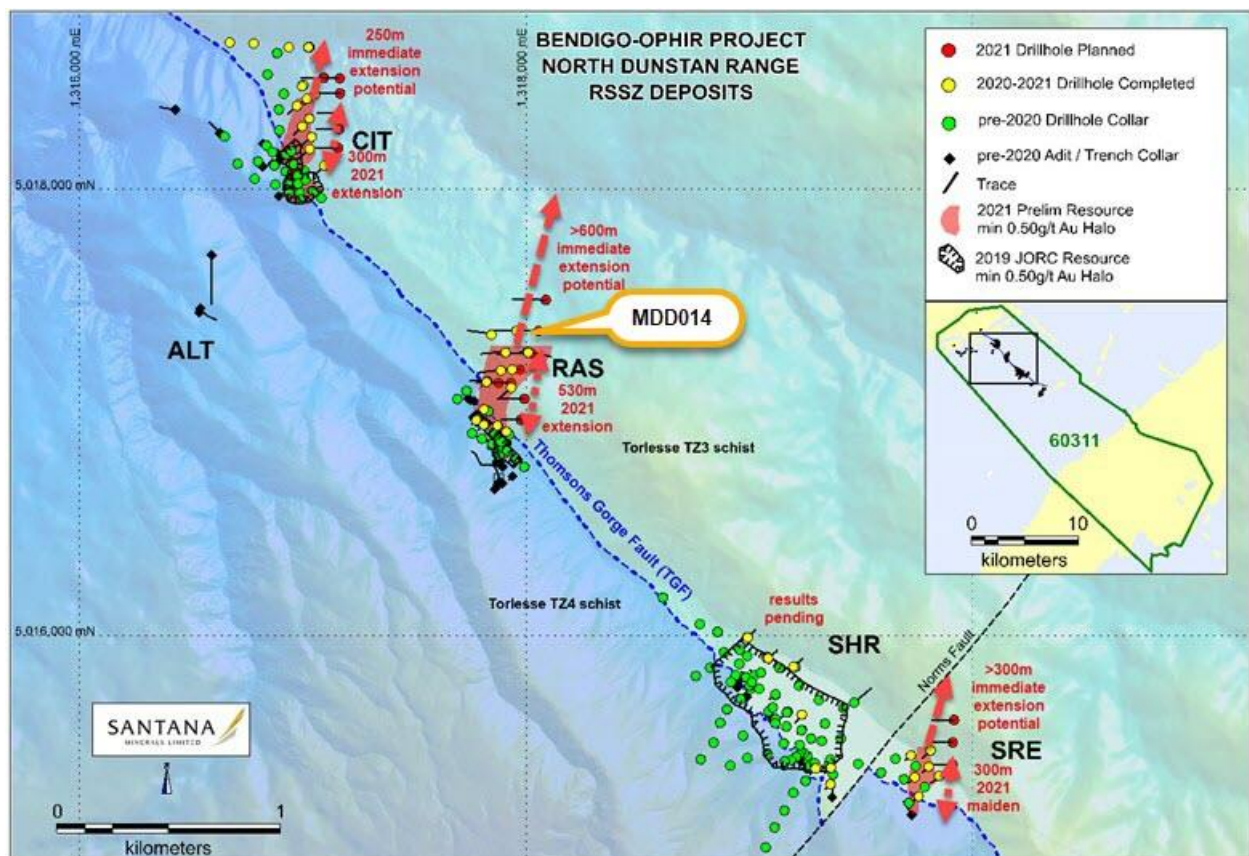

Figure 1 RSSZ 2021 preliminary resource halos and MDD014 drill location
Diamond (DD) drillhole MDD014 (Table 1, Figures 1 & 2) is drilled on the high grade projection of the RAS shoot along the Rise and Shine Shear Zone (RSSZ) where drilling is focused on fast-tracking extensions to 2019 Inferred Resources.
The Bendigo-Ophir resources occur in 4 deposits (Figure 1) that are inferred to extend in a northerly direction within the RSSZ which hosts gold mineralization over a recognised strike length of >20km.